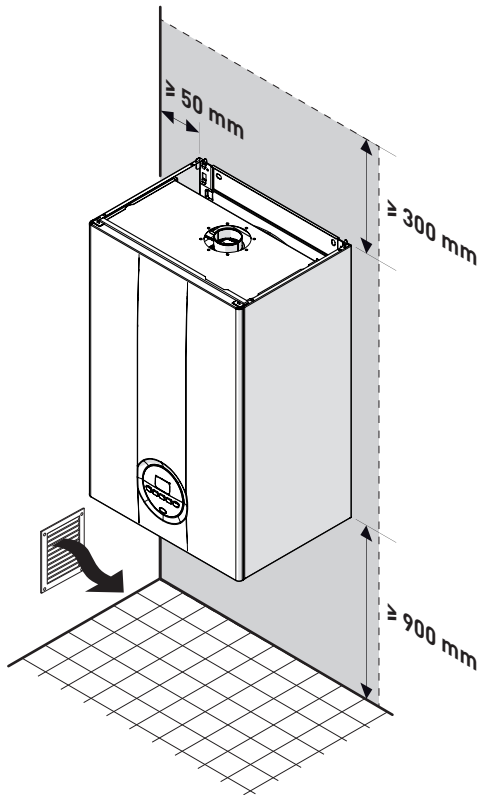

Fig. 18
- Remember to consider the space needed in order to access the safety/adjustment devices and to carry out maintenance interventions (see Fig. 18).